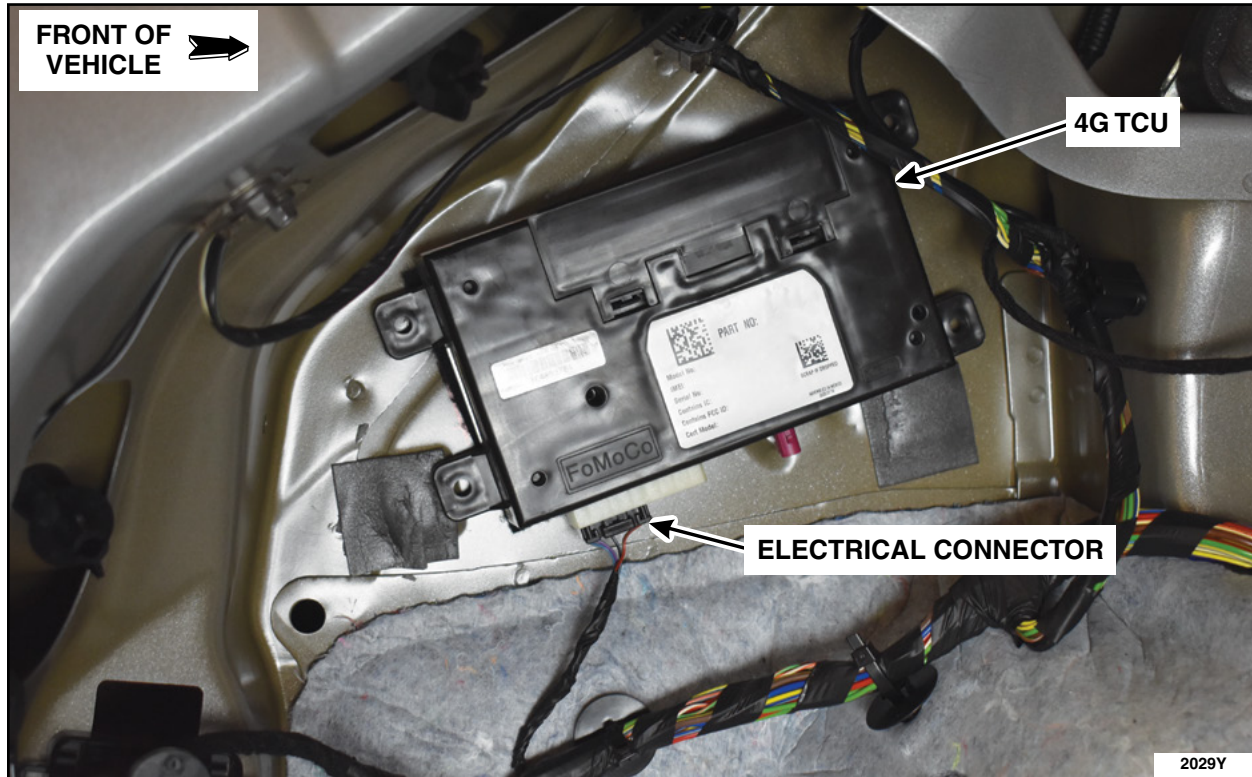

FIGURE 11
12. Connect the electrical connector. See Figure 11.